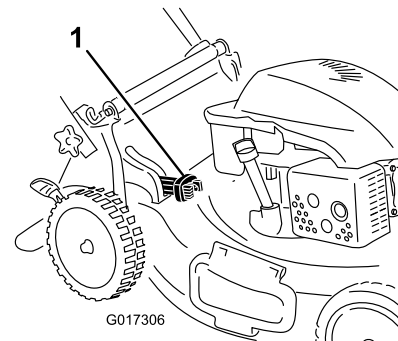

Figure 27
- For bagging the grass and leaf clippings, press the button on the bag-on-demand lever and move the lever forward until the button on the lever pops up (Figure 27).